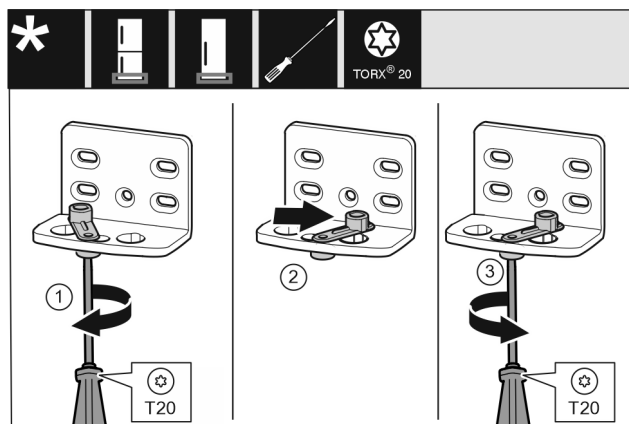

Fig. 13
- ▶ Loosen the screw using a T20 screwdriver. Fig. 13 (1)
- ▶ Lift the door closing aid and turn it 90° to the right in the hole. Fig. 13 (2)
- ▶ Tighten the screw using a T20 screwdriver. Fig. 13 (3)